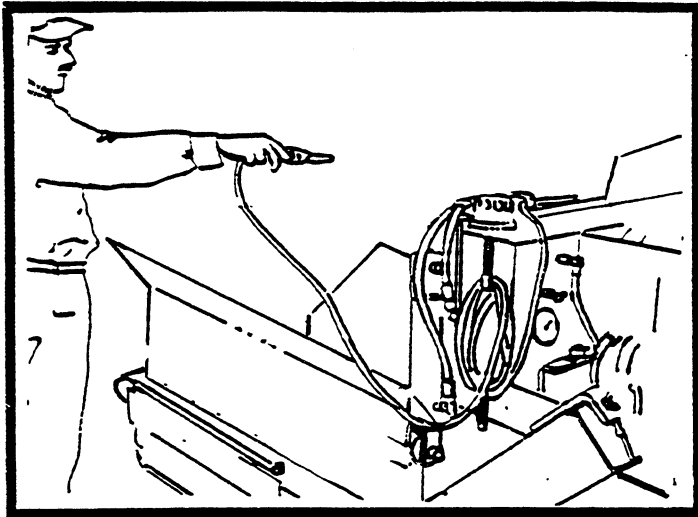

FIGURE 19
1. Raise screed and extend fully on both sides. Lubricate screed inserts with fuel oil and run the extendable screed in and out several times. Make sure end gate depth screw handles are locked after moving extensions to the desired depth. Spray the hopper and augers and auger gates of the screed plate with fuel oil as shown in Figure 19 and 20.